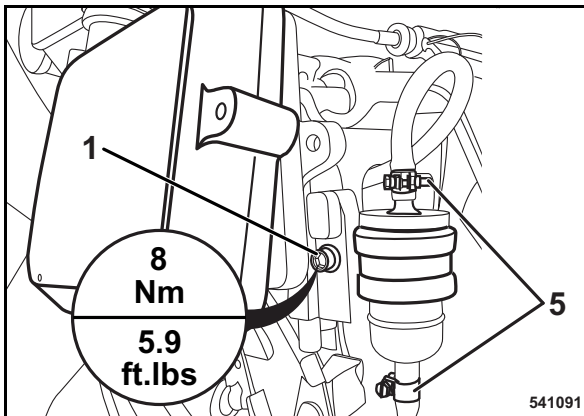

Fig. 63
- Retighten the fastening screw (1) (Fig. 63) with a tightening torque of 8 Nm (5.9 ft.lbs).
- Fasten the fuel hoses to the fuel filter with hose clamps (5).